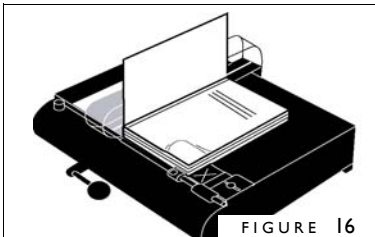

FIGURE 16
4. Lay the book block, front facing up, on the right side of the Platform with its bottom edge resting against the Guide Rail (figure 16). It is OK if part of it rests on top of the Centering Guide. Push the spine of the book block against the spine portion of your cover that is folded up.